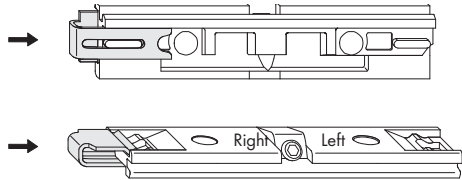

Fig. 3
- A** Clip spring (**811**) in pre-assembly position DIN right/left on top hinge block (**812**) (fig. 3).